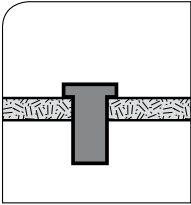

Fig. 7.4. Well-Nut is inserted into a pre-drilled hole with its flange against the outer surface. There is no need for access to the inner side.
- Insert the $\frac{1}{4}$ " Well-Nut into the drilled holes so that only the flange section remains above the roof surface (Fig. 7.4).